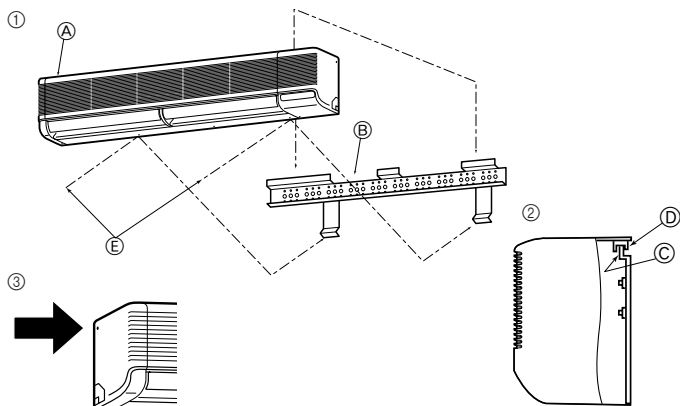

Fig. 3-10
3.3. Mounting the indoor unit (Fig. 3-10)
- ① Make sure to hang the metal catches of the indoor unit over the hooks of the wall mounting fixture.
- ② When the piping has been completed, use the securing screws to fix the indoor unit on the wall mounting fixture.